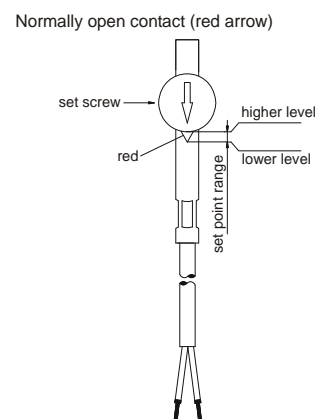
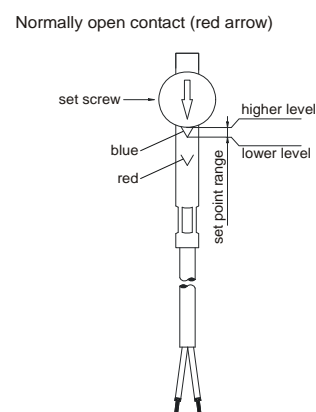

Fig. 17
Fig. 18
- Move the switching unit until the red arrow for the desired normally open contact (→ Fig. 17) or the blue arrow for the normally closed contact (→ Fig. 18) is visible at the entry of the switching unit guide.